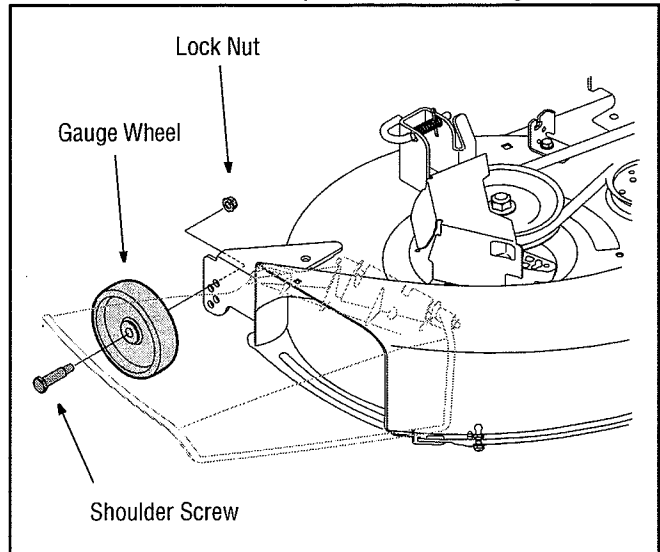

Figure 4
Place the tractor on a firm and level surface, preferably pavement, refer to Figure 4, and proceed as follows:
- d. Insert the shoulder screw with the rear gauge wheel into the index hole that leaves approximately 1/2" between the bottom of the wheel and the pavement. See Figure 4.